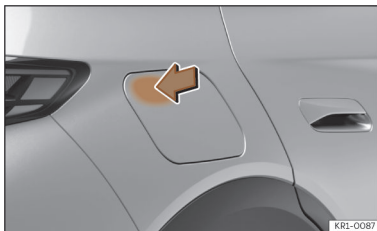

Fig. 57 Opening the charging socket cover.
- Press the battery's charging socket cover in the area of the arrow to open it >>> **Fig. 57**.